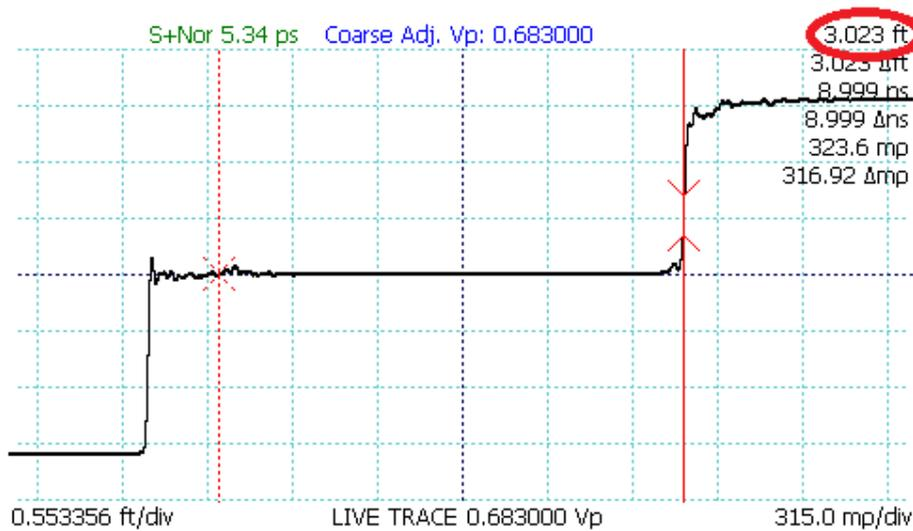

Figure 4.5. Screenshot showing AUTOFIT result.
3. If using the *Special Main* menu, press the *MENU* button then *Distance to Fault*. If using the *Standard Main* menu, press the *AUTOFIT/HELP* button, then select the *AUTOFIT* menu item. The CT100B will display a trace that includes the beginning and the end of the test cable. The cursors will be moved to an area approximate to the cable ends. Figure 4.5 shows an AUTOFIT result. The cable end, in this case an open termination, has been found at 3.023 feet and the whole cable trace is displayed on the screen.